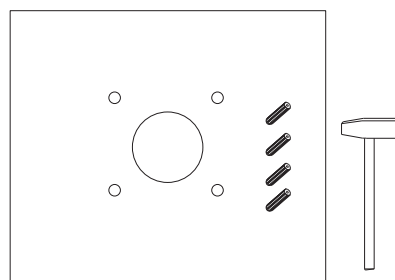

Figure 2-2
2. Fix rubber plugs into holes. (Figure 2-2)